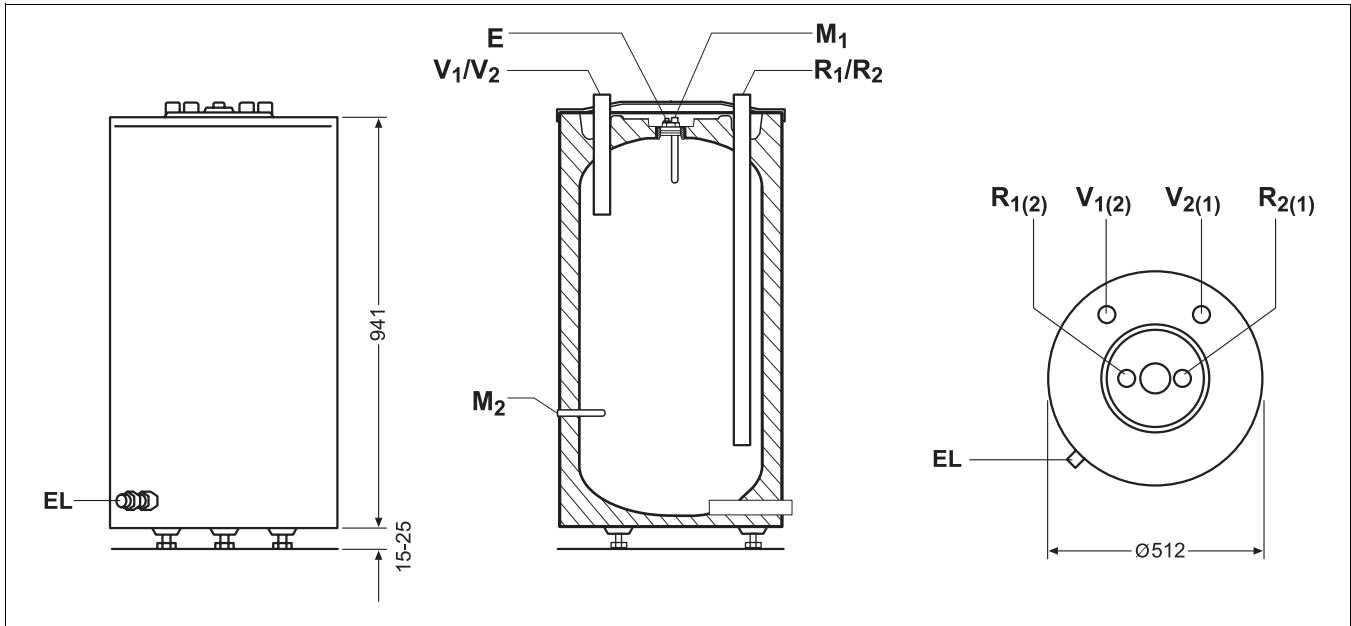

Fig. 2 Dimensions and connections (dimensions in mm)
- **M2** = Measuring point for return temperature sensor (GT1) bottom (→ Fig. 2, page 5)